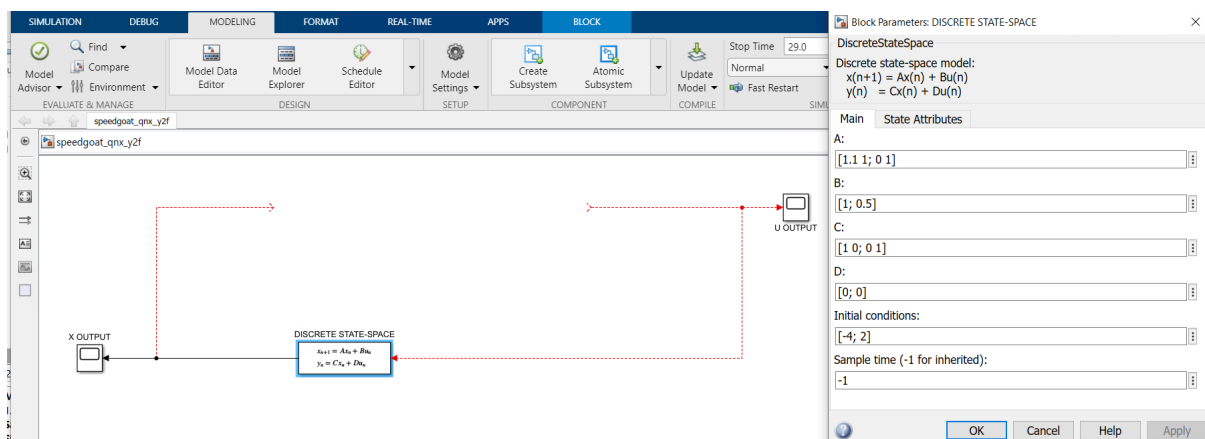

Figure 13.104: Populate the Simulink model.
3. (Figure 13.104) Populate the Simulink model with the system you want to control.